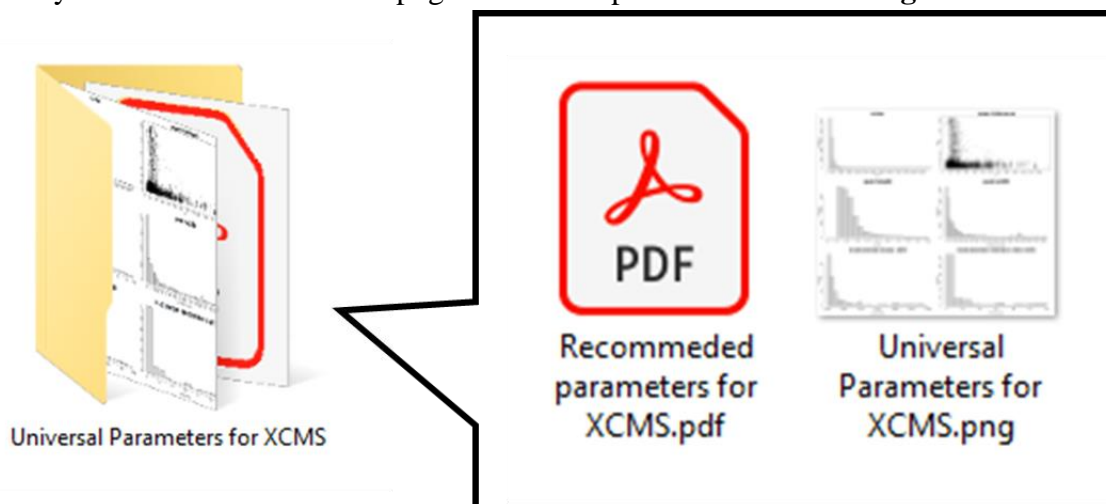

Figure 4. The output of Paramounter part 2.
- 7) **Run Paramounter part 2.** In R-studio, click on “→Source” in the top right corner of the R-studio interface to start running the code of part 2. After the code finishes running, a folder with the name “Universal parameters for the software selected by user” is created within the directory. The folder contains one png file and one pdf file as shown in **Figure 4**.